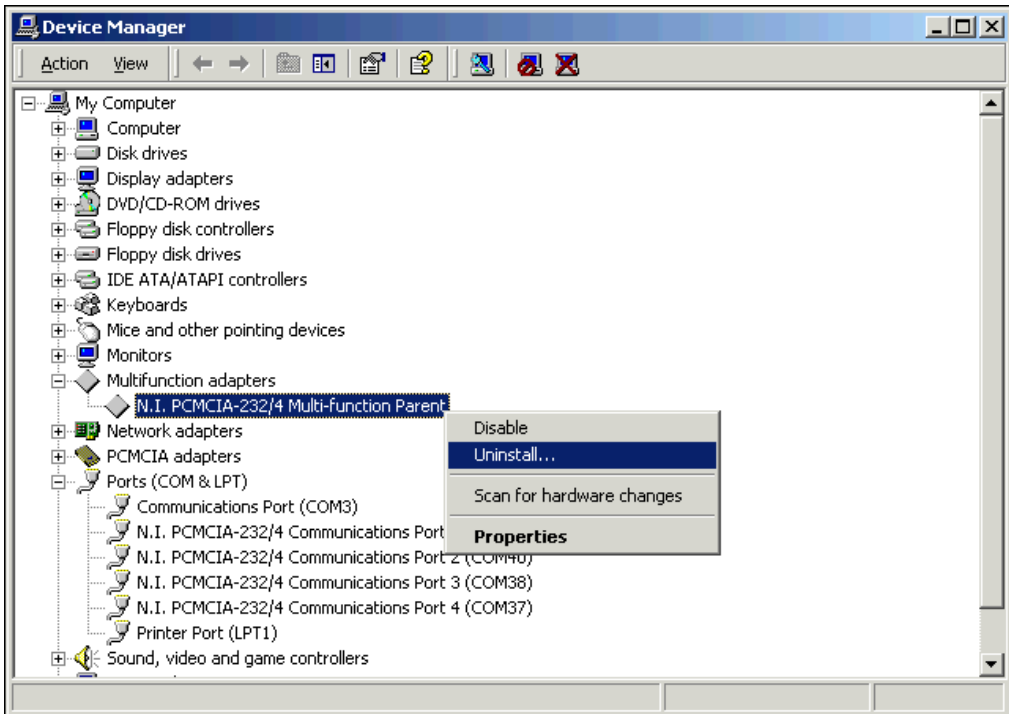

Figure C-7. Selecting an Interface to Uninstall
4. From the **Multi-function adapters** list, right-click the National Instruments interface that you want to uninstall, as shown in Figure C-7.